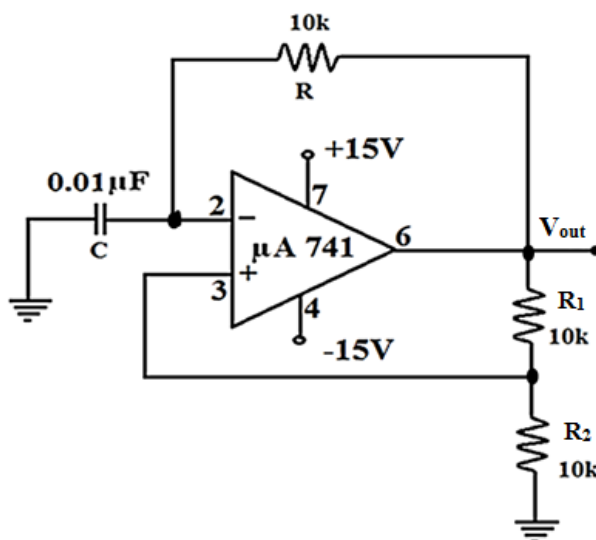

Fig. 9.1: Op-amp based Astable multivibrator
- Connect the circuit as shown in the Fig. 9.1.